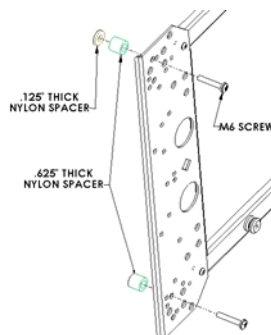
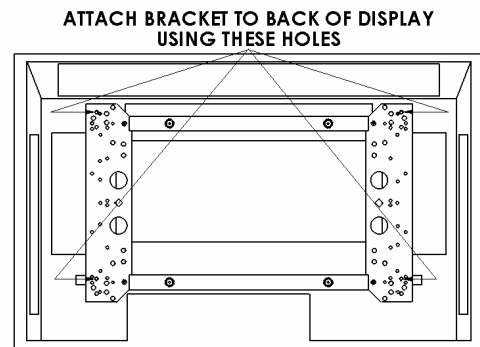

Figure 6
Figure 7
3. Place Nylon spacers over mounting holes on back of screen, making sure to add the .125 thick spacers on upper mounting holes. Attach mounting brackets to display using the M6 screws (see Figure 6 & Figure 7).